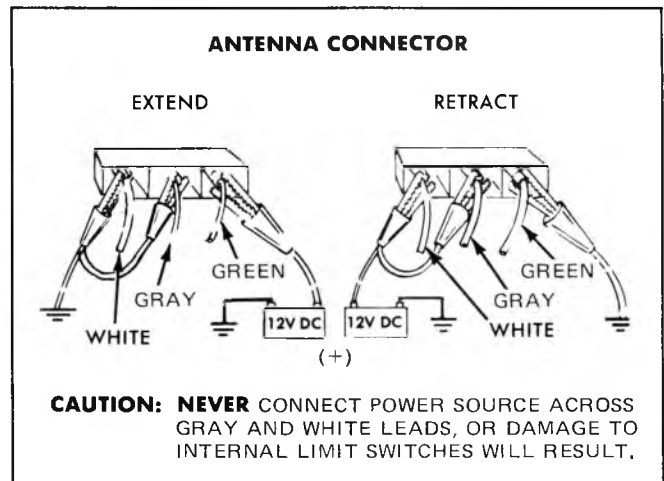

Fig. 9-13R-Extending and Retracting Mast
6. Connect power source (12V) to antenna wires to extend mast and or run the drive cable out of the gear box as shown in Figure 9-13R.